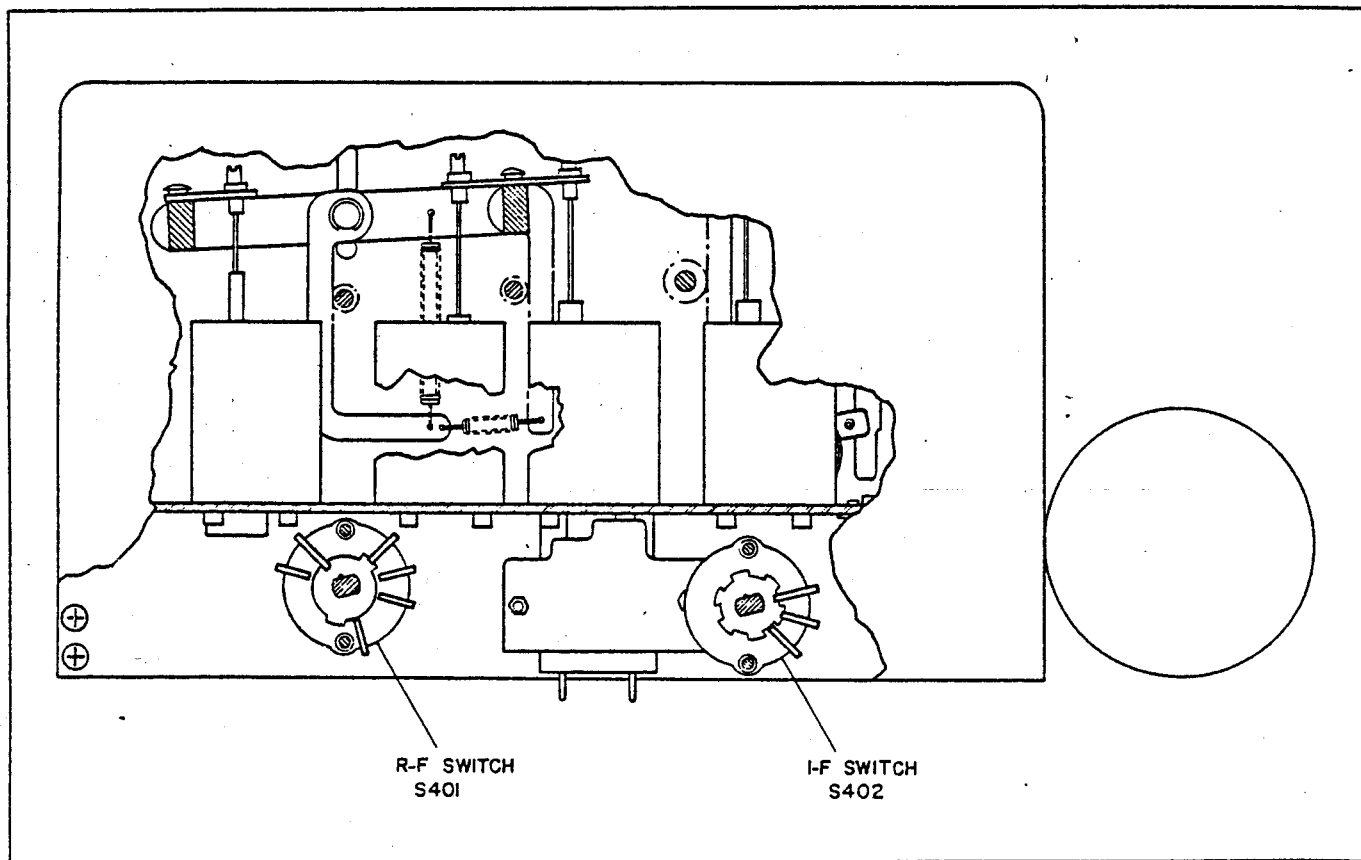

Figure 3-14. R-F and I-F Tuner Assembly, Switch Alignment
a. Align i-f switch wafers as illustrated in figure 3-14, viewed from the front.
a. Align r-f switch wafers as illustrated in figure 3-14, viewed from the front.